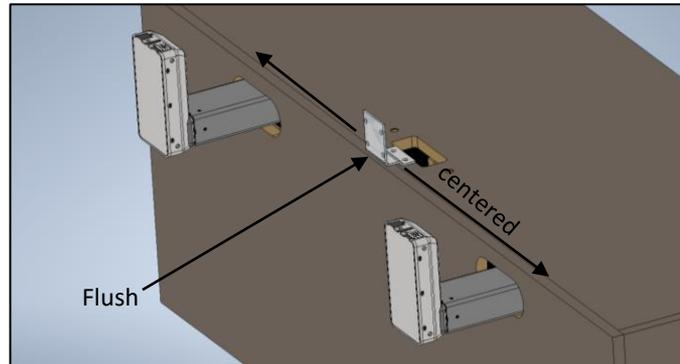

Figure 2
1. Position and secure bracket above the grommet so that it is centered from side to side and flush with the top edge (Figure 2)